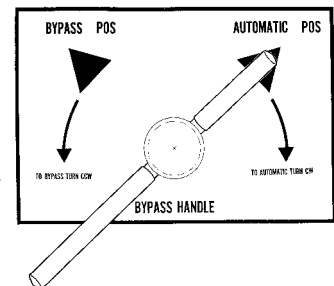

Figure 3-8 Turn Bypass Handle to AUTOMATIC.
7. Turn Bypass Handle clockwise as shown in Figure 3-8 to *AUTOMATIC POS*. The Bypass Switch *CLOSED ON NORMAL* or *EMERGENCY* light should go off.